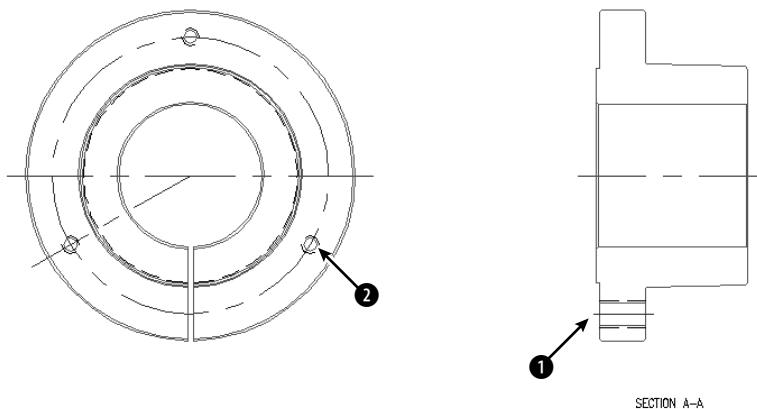
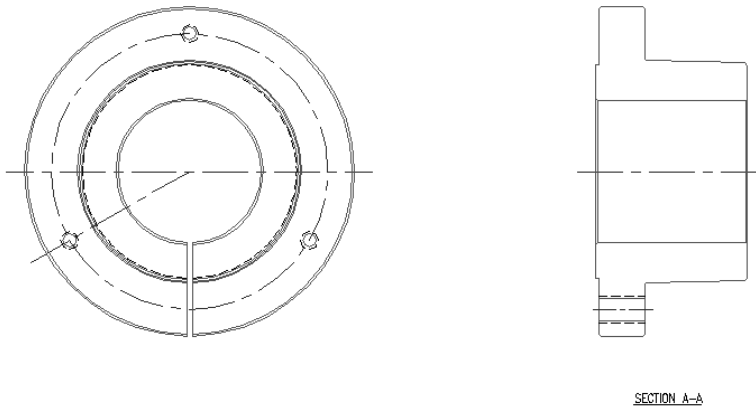

Figure 11-27: This drawing of a bushing has two noncontinuous linetypes. Thanks to Robert Mack of the Dexter Company, Fairfield, Iowa, for this drawing.
Figure 11-28: The drawing's noncontinuous lines are now more appropriate.
2. Save the file as `ab11-05.dwg` in your AutoCAD Bible folder. This drawing is of a bushing, as shown in Figure 11-27. Notice that the linetype doesn't show clearly on the short line at ❶ and in the small circle at ❷.
3. Choose Format ⇄ Linetype. Click Show Details to open the Details section of the Linetype Manager, if necessary. Change the Global scale factor to 0.5. Click OK. The drawing regenerates. Note that the circles are better, but the short line at ❶ still looks like a continuous line.
4. Choose the line at ❶. Choose Properties from the Standard toolbar. Click Linetype scale and change it to 0.5. Press Enter. Press Esc to remove the grips and see the result. Notice the difference in the line, which now has a linetype scale of 0.5 (global) times 0.5 (object) = 0.25.
5. Save your drawing. It should look like Figure 11-28.